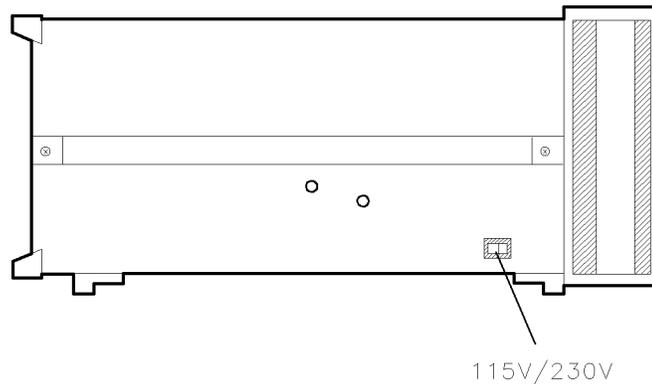

Figure 4-6. Voltage Selector Switch
Note If the input voltage is 230 Vac, but the voltage selector switch is set for 115 Vac (see to Figure 4-6), the input fuse is blown at turn on, protecting the display.
- Low ac input voltage to the display. Check the voltage selector switch setting (see Figure 4-6) on the bottom cover. The switch setting must be either 115 Vac for 87 to 132 Vac input or 230 Vac for 174 to 264 Vac input. If the line-voltage does not meet specification, then the display is probably good. Connect the display to a good line-voltage source and verify its operation. If the voltage selector switch setting is incorrect, unplug the line cord, then change the setting. The display should now operate correctly.
2. Disconnect the W3 ribbon cable from the A4P1 connector. Refer to Figure 4-4. Verify that the display’s voltage selector switch is set to 115 Vac. Refer to Figure 4-6. Connect the isolated output of the Line-Isolated Variable Mains Transformer (VARIAC) to the display’s input. Turn the Line-Isolated Variable Mains Transformer (VARIAC) on and adjust the Line-Isolated Variable Mains Transformer (VARIAC)’s output to 115 Vac.